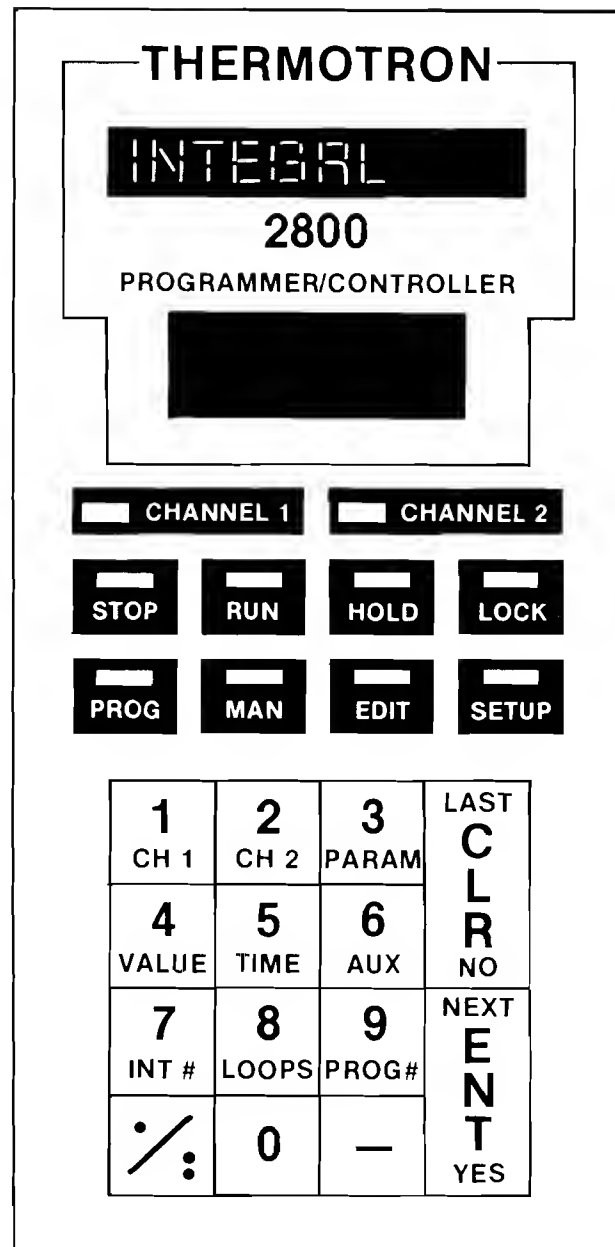

FIGURE 10
1. Press the **PARAM (3)** key.
2. To scroll through the display, press the **ENT (NEXT)** key until the display shows **INTEGRL**. See Figure 10.
3. Press the **PARAM (3)** key.
4. To scroll through the display, press the **ENT** (NEXT) key until the display shows INTEGRL. See Figure 10 on Page 20.